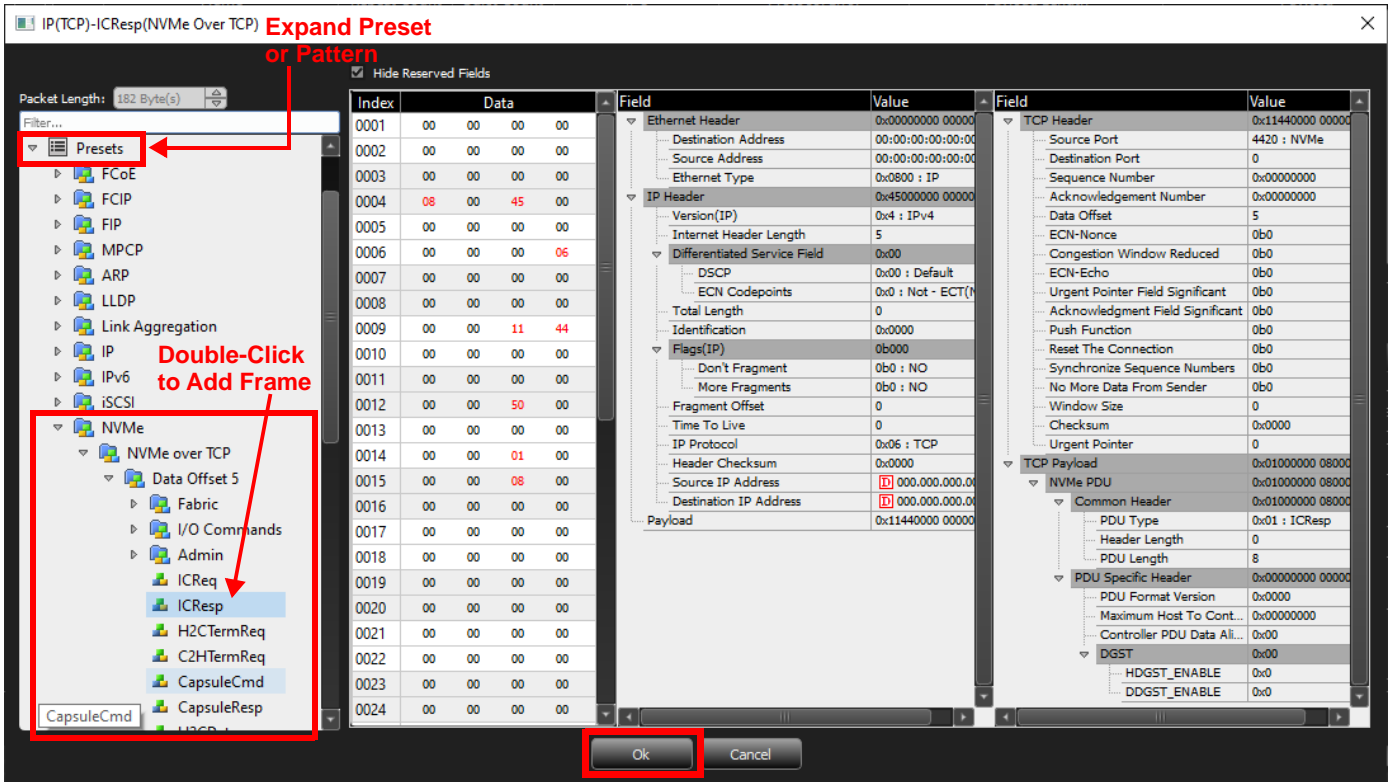

Figure 9.10: Add Frame
- b. Expand the Preset or Pattern to display the desired frames (Figure 9.10).